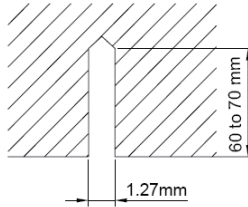

Fig. 4.4
- (2). Install the bolts to the ceiling at a place strong enough to hang the unit. Mark the bolt positions from the installation template. With a concrete drill, drill for 12.7mm (1/2") diameter holes. (Fig. 4.4)